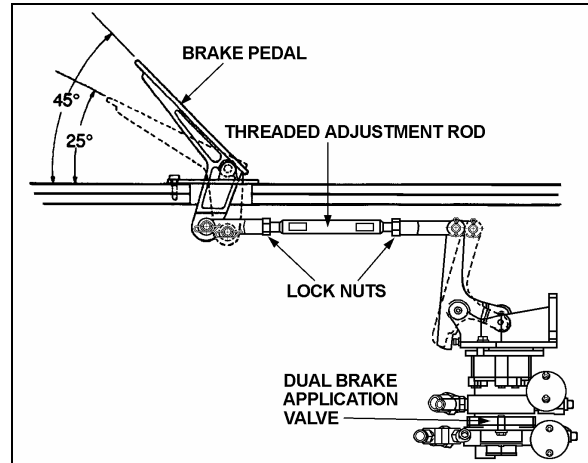

FIGURE 11: BRAKE PEDAL ADJUSTMENT 12208
The E-10P dual brake valve is a floor mounted, foot-operated type brake valve with two separate supply and delivery circuits. This valve is located in the front service compartment (Fig. 11).
1. Replace the linkage, loosen threaded rod lock nuts and screw or unscrew the threaded adjustment rod in order to obtain a 45° brake pedal inclination (Fig. 11).